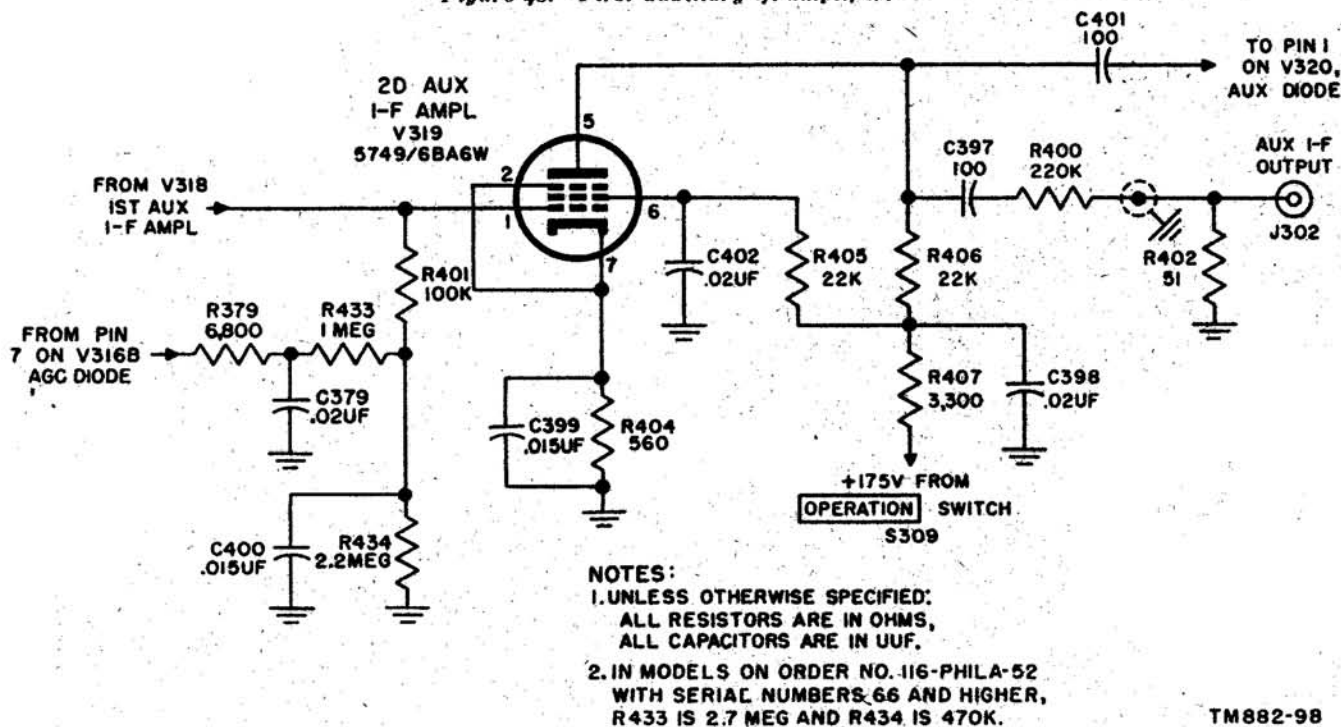

Figure 49. Second auxiliary if. amplifier.
b. *Second Auxiliary If. Amplifier* (fig. 49). The primary function of second auxiliary if. amplifier V319 is to increase the gain. The 455-kc if. signal from V318 is fed to the control grid of V319, and the output is coupled through C401 to auxiliary diode V320. The gain is regulated by the agc voltage applied to the control grid through grid resistor R401. The function of the agc decoupling network is the same as for V318. Resistor R406 is the plate load, R404 is the cathode bias resistor, and R405 is a voltage dropping resistor for the screen grid. Rf bypass capacitors are C399 for the cathode and C402 for the screen